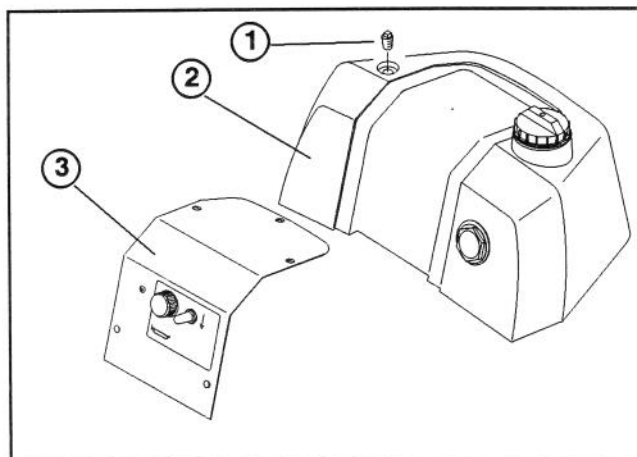

Figure 2
3. Remove pipe plug from top of auxiliary tank (Fig. 2)
8. Remove (5) capscrews and washers securing cover plate to auxiliary hydraulic tank (Fig. 2). Remove cover from tank.